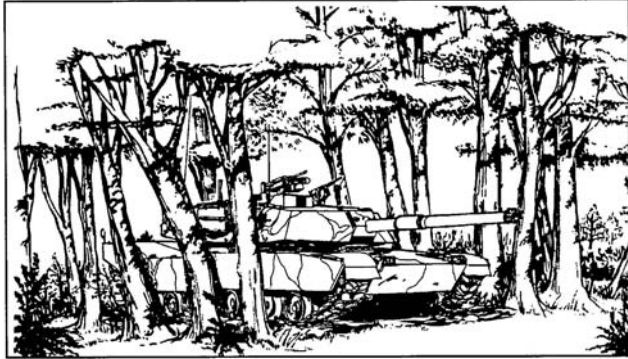

Figure 071-329-1030-1. Vehicle capabilities
- (1) Most military vehicles can knock down a tree. Larger vehicles can clear more trees but cannot knock down several trees at once. Find paths between trees that are wide enough for the vehicle (figure 071-329-1030-1).